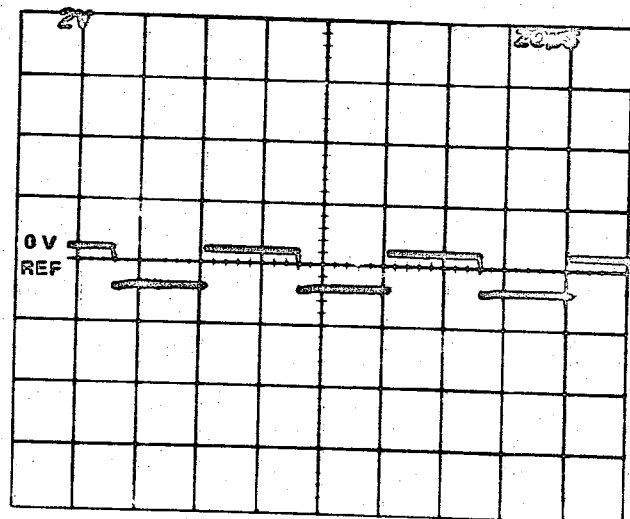

Fig. 6-5. Probe to Collector lead of Q355.
11. Connect the probe to the collector lead of Q355 on the Horizontal board. Trigger the test oscilloscope for a waveform. This waveform should be similar to that shown in Fig. 6-5.